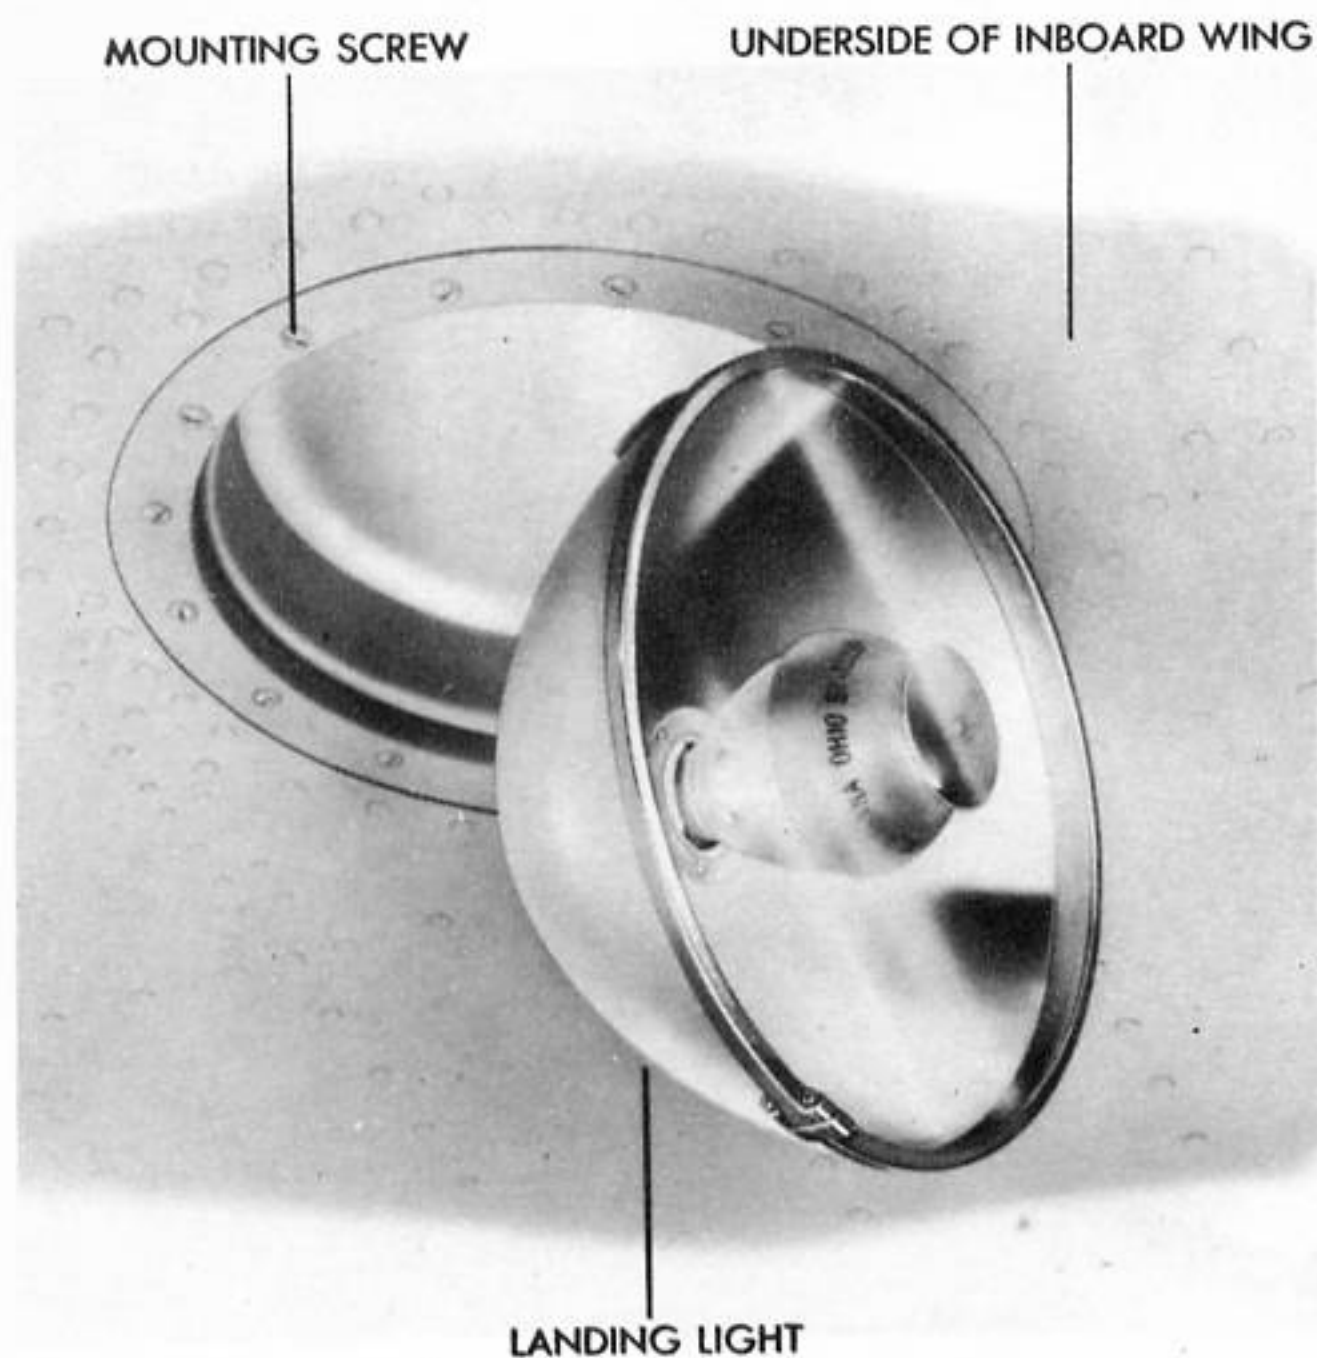

Figure 234 - LANDING LIGHT
(4) LIGHTS. - Two ST-1220AF-24 landing lights are installed on the under side of the inner wings outboard of the engine nacelles. (See figure 234.) Built-in drive motors cause these lights to swing down and forward when turned ON and back flush into the wing when OFF. Control switches for these lights are installed on the pilot's upper electrical panel. Each cockpit is lighted by type A-6 lights. Type C-5 lights are used for the instrument panel lighting. The bomb racks have extension lights to facilitate loading and servicing. Type A-8 running lights are mounted on the wing tips and vertical stabilizer. Formation keeping lights are mounted on the wing and upper surface of the fuselage aft of the rear cockpit enclosure. One upward and three downward recognition lights are mounted on the fuselage. They are operated from a control box in the pilot's cockpit. They are wired so